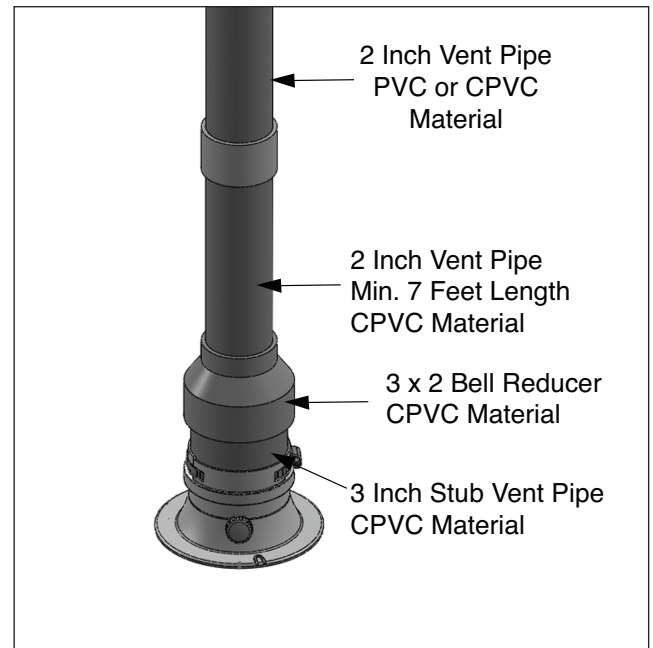

Fig. 20 - 2" CPVC/PVC Venting System Vertical
3. Use a 3" x 2" bell reducer to make the transition to 2" CPVC/PVC vent, see *Figs. 20 and 21*.